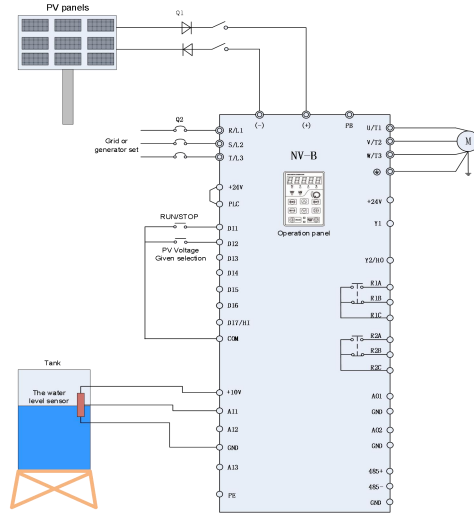

Figure 3-2 NV Grid or Generator Power Supply Wiring Diagram
1. Wirings as Figure3-2 system wiring drawings according to inverters power, check and confirm the connections to be correct.